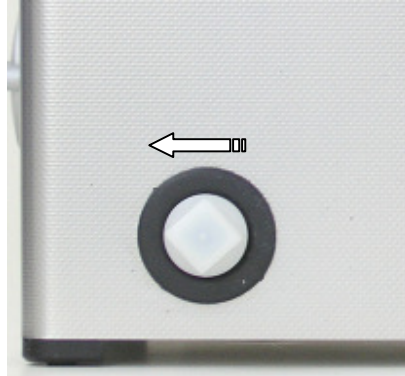

Fig 5.1.1 Drain duct with blind screw cap (on delivered unit)
1. Unscrew the plastic screw cap anti-clockwise (see Fig 5.1.1).